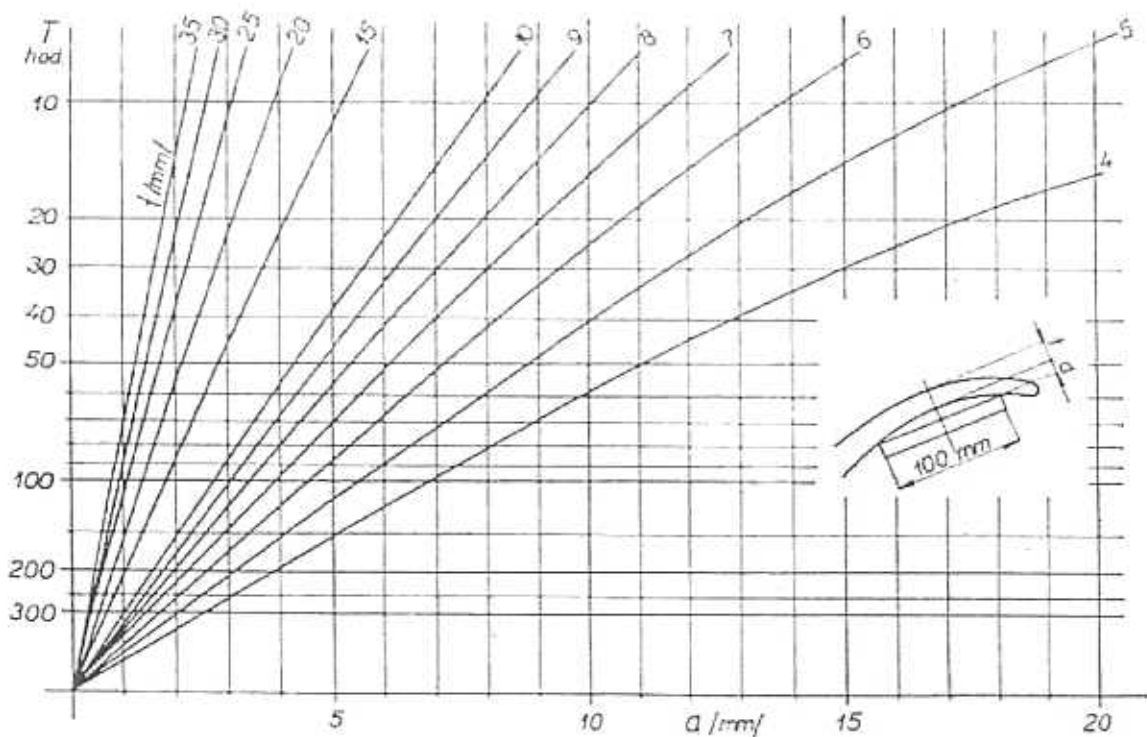

Fig. 19 — Graph for straightening the propeller blades in cold state (without being previously heat-treated)
Only in exceptional cases (for example when propeller has to be repaired after an emergency landing) is it permitted to straighten the propeller blades without previously being heat-treated. To determine the remaining service life of the propeller blades which have been straightened in cold state, refer to the graph in Fig. 19.
2. Find out the value of the propeller blade deflection (a), determined during the measurement, on the horizontal axis of the graph (see Fig. 19).